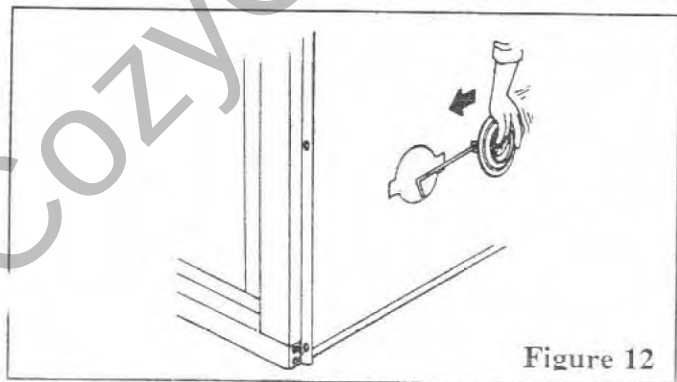

Figure 12
STEP 2: Remove the air inlet cover from the right-hand side of the case (Figure 12). Discard the cover. On some models, the cover may be of the "knock-out" type.
STEP 5: Insert the handle into the case as shown in Figure 12. Move the air gate assembly forward into position. Make sure the handle extends through the vertical slot in the front frame side (See Figure 46, Page 19).